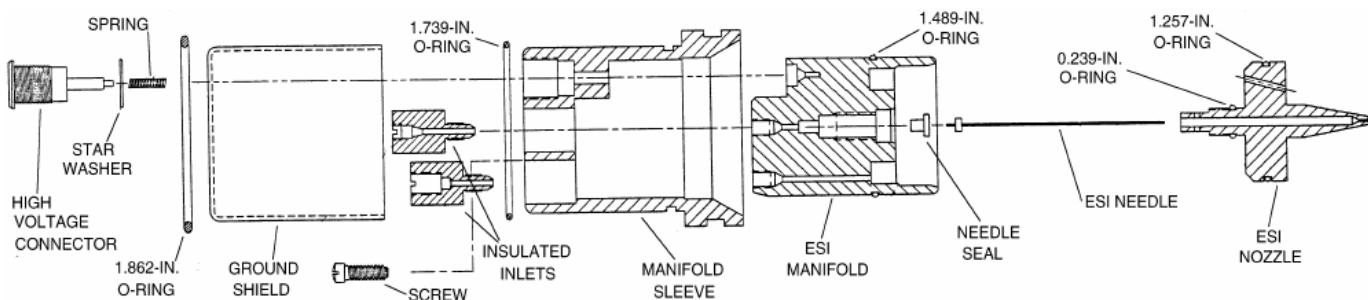

Figure 4. Exploded view of the ESI probe.
8.1.3.2. Replace the ESI needle if it is damaged. Replace the needle seal if the sheath liquid is leaking at the needle seal-needle interface. Replace the ESI needle as follows (see Figure 4):